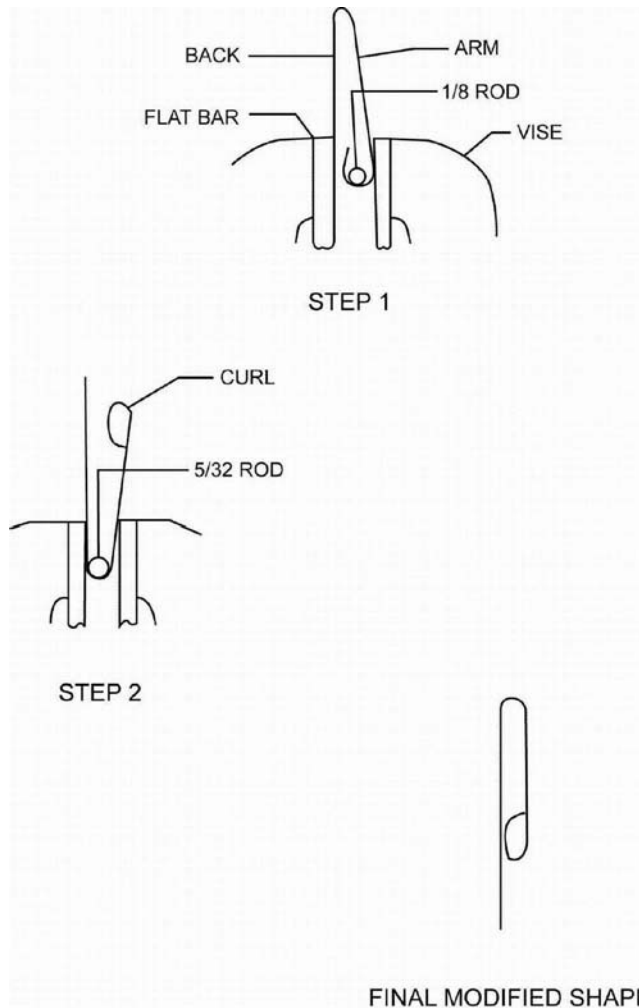

Figure 077-3-50. EAB Mask Regulator Clip Modification
- a. Remove the clip from the regulator and place it in a machinist vise, as shown in Figure 077-3-50, step 1. Place a piece of 1/4-inch thick smooth flat bar between clip and each vise jaw to prevent scoring clip. Insert a piece of 1/8-inch rod (suggest using welding rod) in the clip curl.
- b. Close the vise until moderate resistance is felt. Release clip and examine the area where the curl tip contacts the arm. The curl tip should just touch the arm, as shown in Figure 077-3-50, step 2.
- d. Turn the clip upside down and insert it into the vise, as shown in Figure 077-3-50, step 2. Retain the flat bars and insert a 5/32-inch rod (suggest using welding rod) in the clip.
- g. The final modified shape of the clip is shown in Figure 077-3-50. Put the clip back on the regulator and try placing the regulator on and off the belt several times to ensure it can be quickly removed and there is minor resistance when placing the regulator on and off the belt.